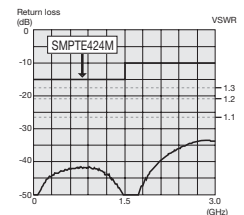

Fig.1 Return loss for BCJ-J
- 1.1 or less VSWR up to 2GHz. <Fig. 1>